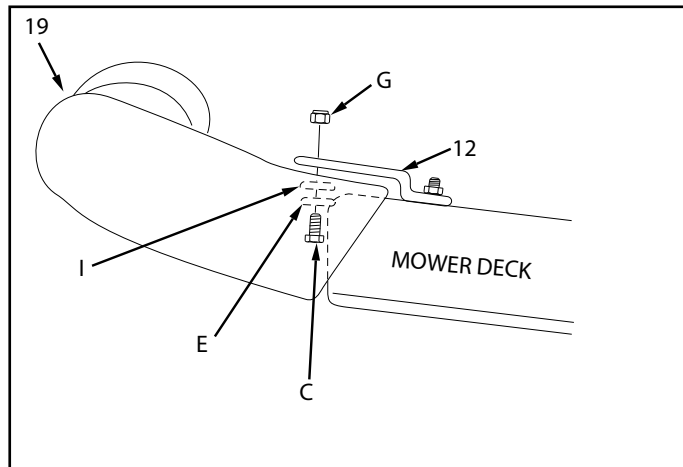

FIGURE 19
- With deck adapter positioned correctly over the discharge opening, use the adapter bracket as a template and drill three 9/32" diameter holes in the top of the deck adapter. See figure 19.
- Bolt deck adapter to bracket using three 1/4" x 1" bolts (C), nylon washers (I), 1/4" flat washers (E) and 1/4" nylock nuts (G). Nylon washers should be against the inside of the deck adapter. See figure 19.